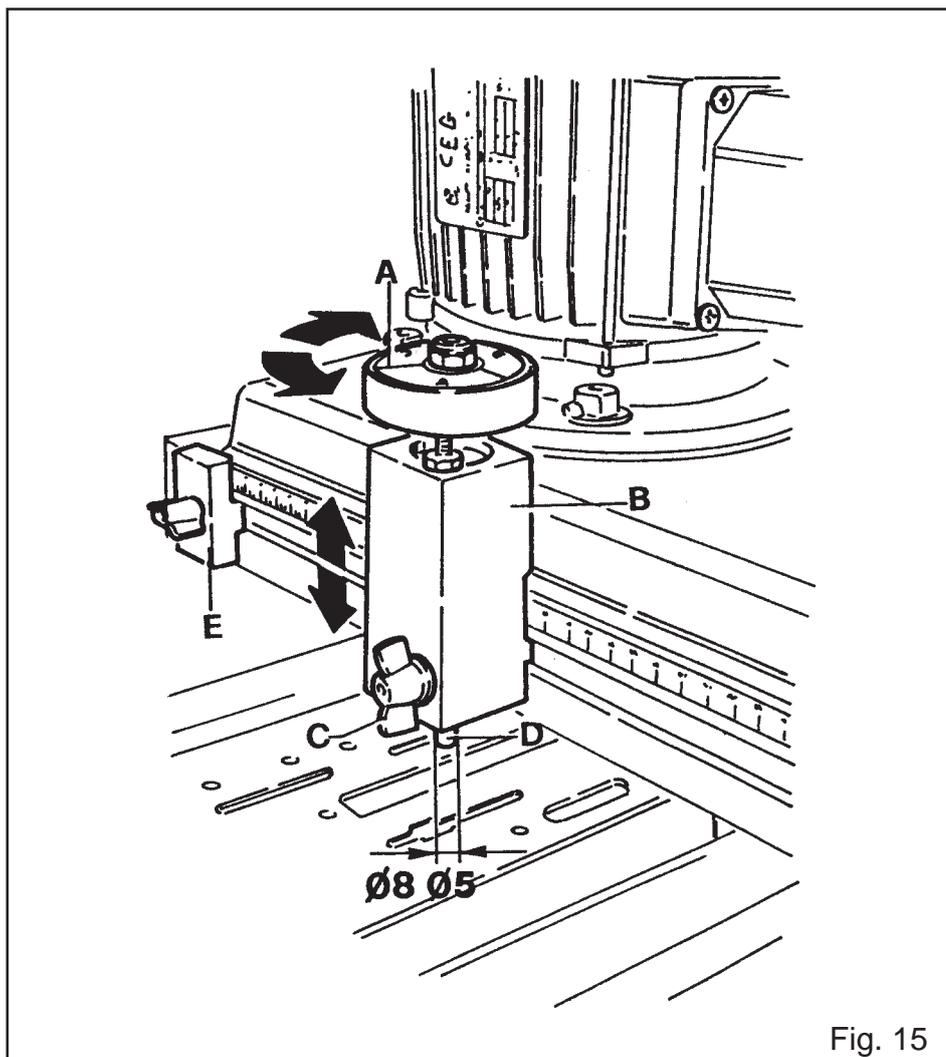

Fig. 15
- A) (fig.15) = Selector (A = rest position; B = slider 8 position; C = slider 5 position)
- B) (fig.15) = Tracer point
- C) (fig.15) = Handle
- D) (fig.15) = Double diameter slider
- E) (fig.15) = Stop for handing the selection